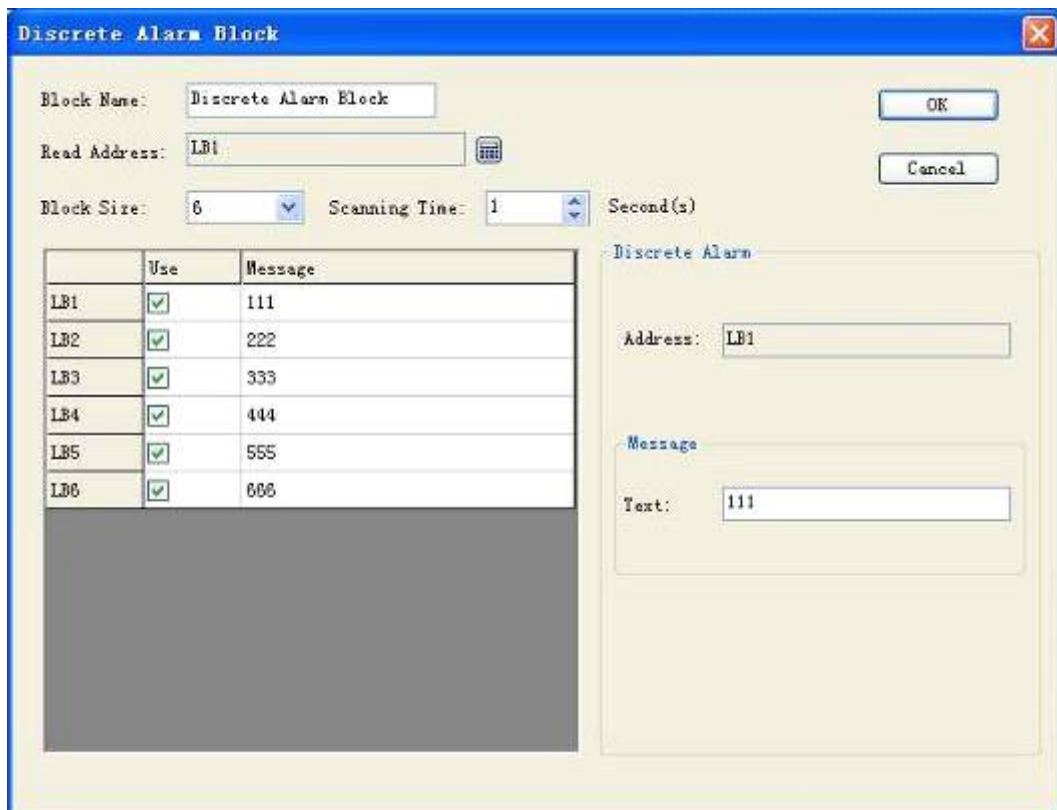

Figure 7-17 Dialog box of digital alarm
- Double click the option “Digital Alarm Log” in unfolded option of alarm log to open the dialog box of digital alarm setting, as shown in figure 7-17.
- Click some option in list box. Then, move mouse to the edit box “Text” in right module “Message” and enter text information in it, i.e. alarm content. Suppose information set here (i.e. alarm content) is as shown in figure 7-17.